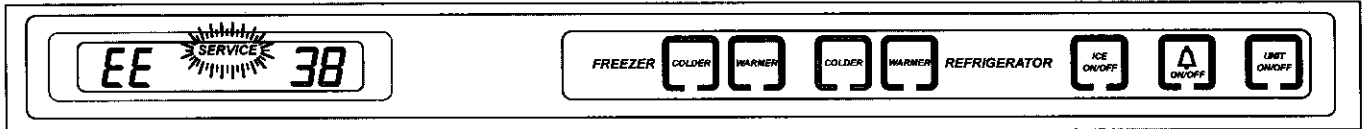

Figure 3-37. 700TR-3 & 736TR-3
- For Model 700TR-3 and 736TR-3, See Figures 3-37 through 3-42